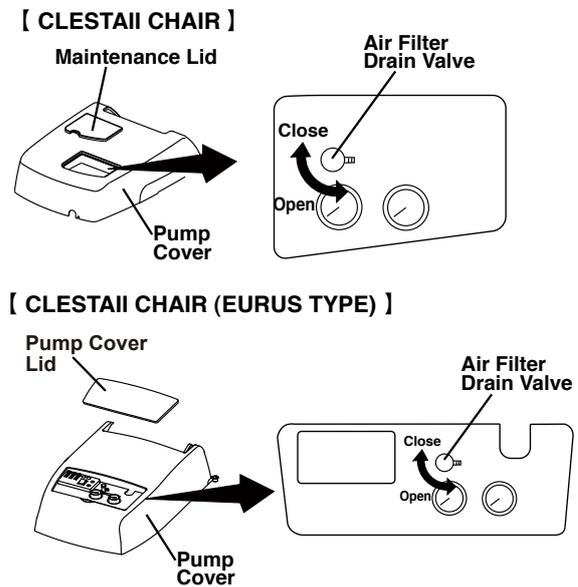

Fig.5-16 Air Filter Drain Valve
(9) Air Filter Drain Valve (Fig.5-16)